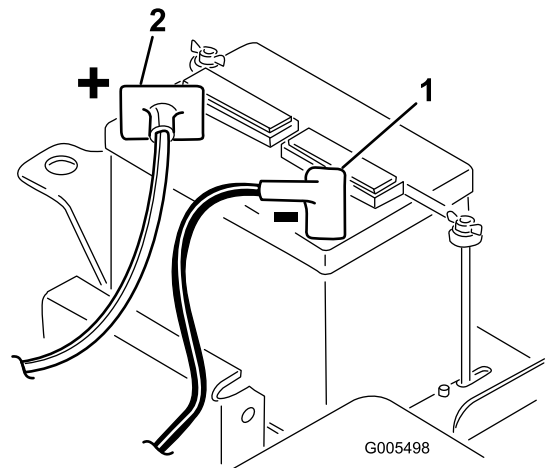

Figure 5
2. Connect the positive battery cable (red) from the starter solenoid to the positive post (+) of the battery (Figure 5). Secure it with a wrench and coat the terminal with petroleum jelly. Make sure that the cable will clear the seat, in the rear-most position, which could cause wear or damage to the cable.